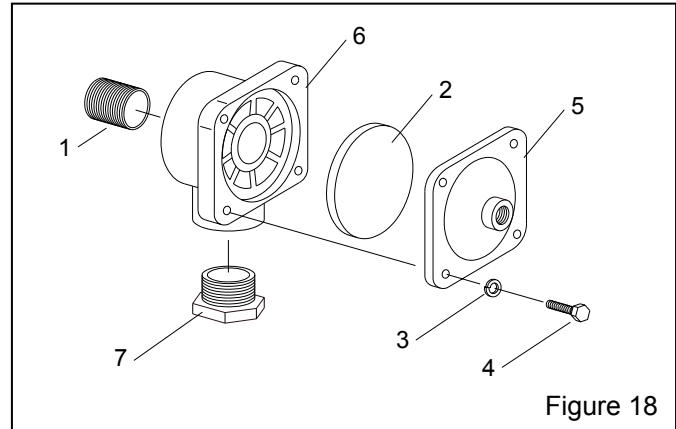

Figure 18
**9.5 1" Diaphragm Outlet Valve, Figure 18**